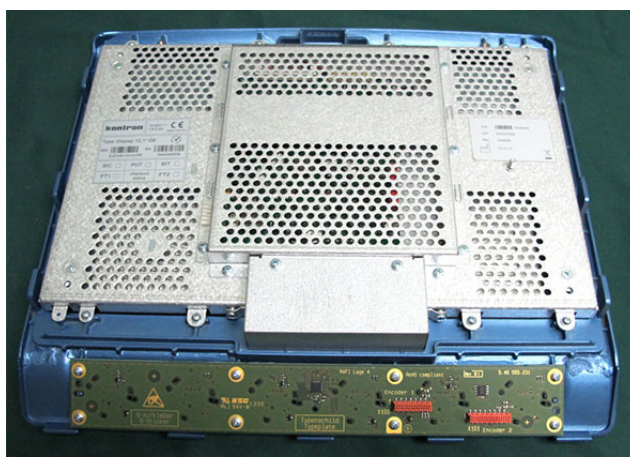

Figure 8-46 Touch Screen Removed
8.) Carefully lie the Touch Screen face-down on a clean, soft, stable surface - Figure 8-46